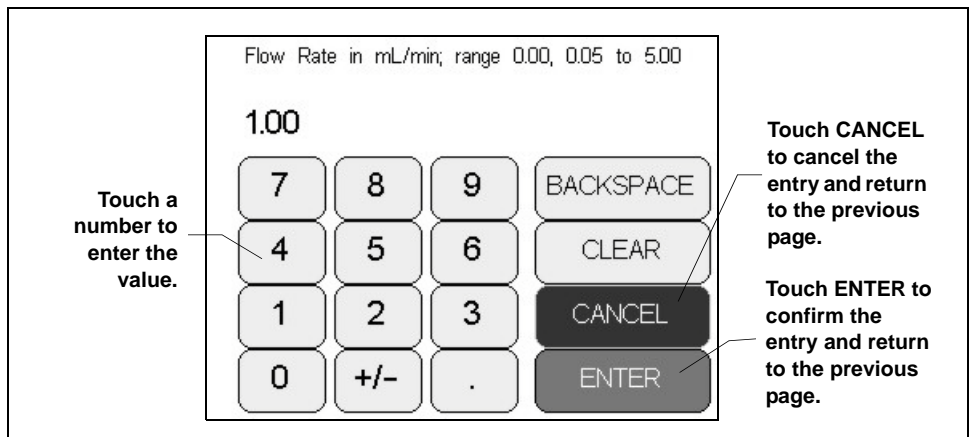

Figure 2-3. Number Keypad
- Touching an edit field (for example, **Flow Rate** mL/min) opens a page with a number keypad (see Figure 2-3). Use the keypad to enter the desired numerical value for the field and then touch the **ENTER** button.